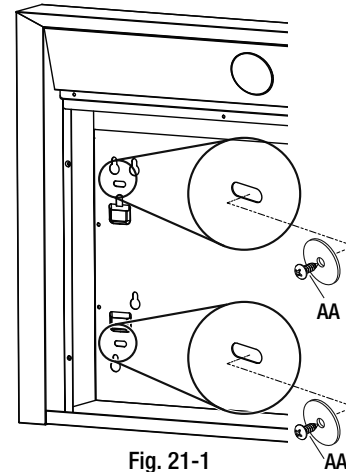

Fig. 21-1
- Frameless cabinet installation requires four long tapping screws (AA) with washers. Use the two slots on each side to secure the range hood directly to the cabinet shown in figure 21-1.